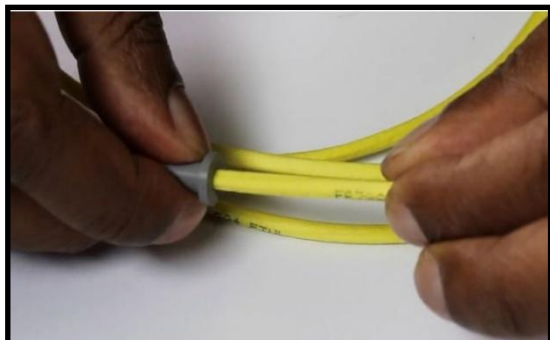

Figure 3
5.2 Install the 3.8mm or 4.0mm bushing on to the fiber bundle allowing it to completely overlap the PVDF jacket. Note: The bushing has a slit for installation without sliding over the bare fibers. **See Figure 3**